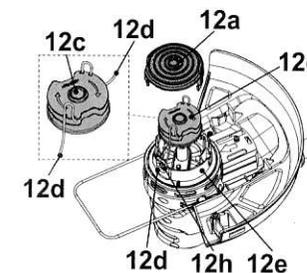

Fig. 24
6. Release the trimming line (12d) from the notches and hold it in position. Avoid the trimmer line (12d) scattered from the trimming spool (12c) (Fig. 24, Step 1).
7. Lead the trimming line ending through the eyelet (12h) on the housing (12e) (Fig. 24, Step 2).
9. Insert the trimming spool (12c) into the housing (12e) (Fig. 24, Step 3). Twist the spool until it locks into place.